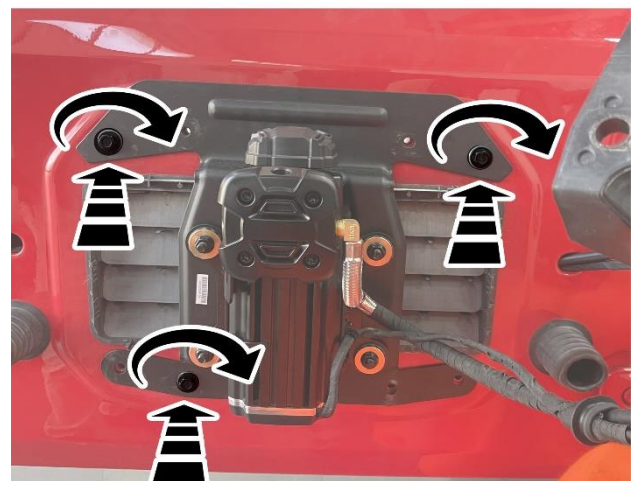

Figure 17 – Temporarily Installed Nuts/Bolts
28. Temporarily install 3 nuts/bolts to secure compressor mounting bracket to door (Figure 17).
35. Remove the 3 temporary installed nuts/bolts (Figure 17).